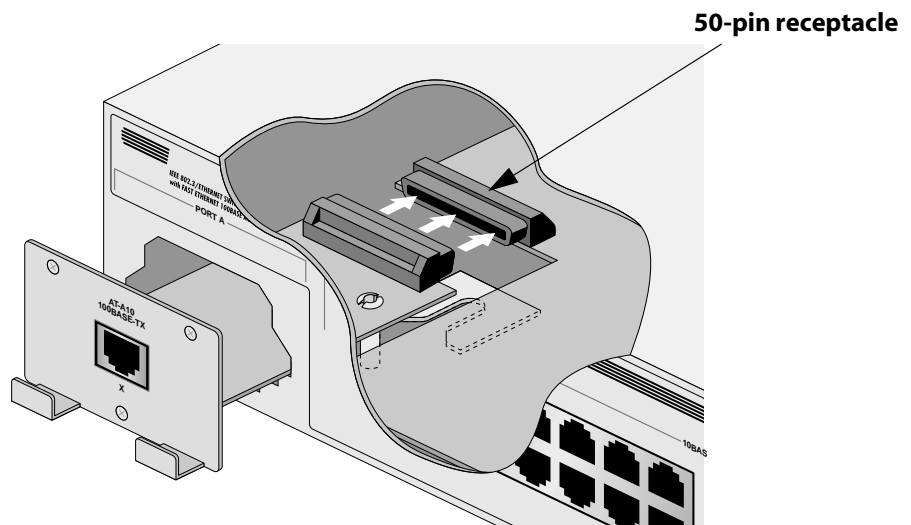

Figure 2-4 Connecting the 50-pin Plug
5. Push the MDA into position so that the front panel contacts the front of the switch's chassis. See Figure 2-4.